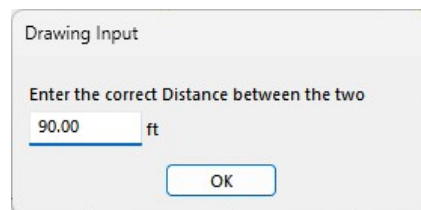

Figure 2.6-4 – Drawing Input Dialog
- The Drawing Input dialog (**Figure 2.6-4**) will open. Enter the proper dimension and click **OK**. This will complete calibration of the drawing.